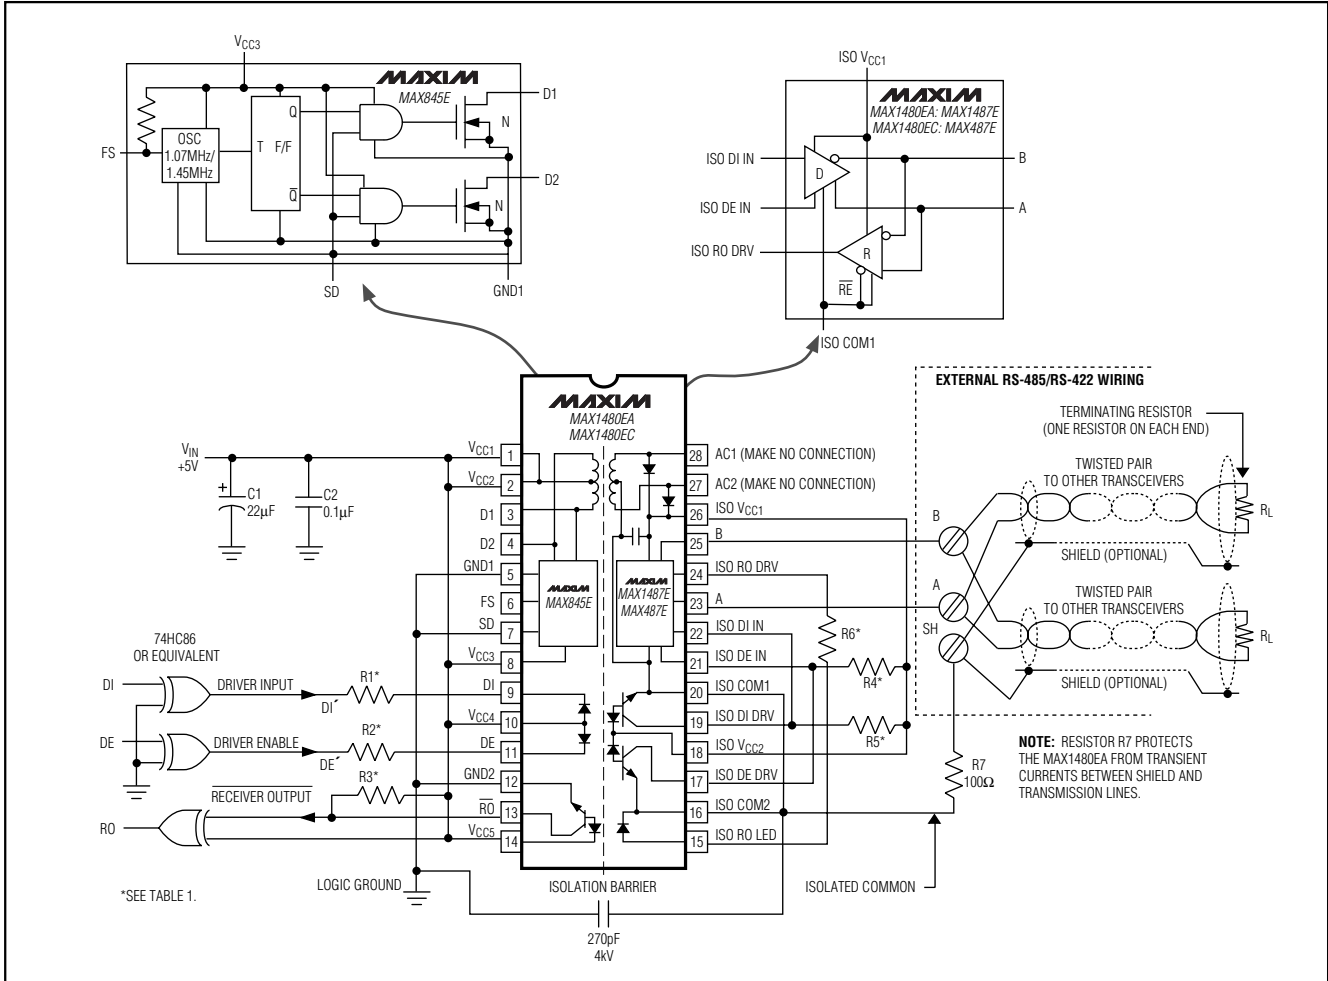
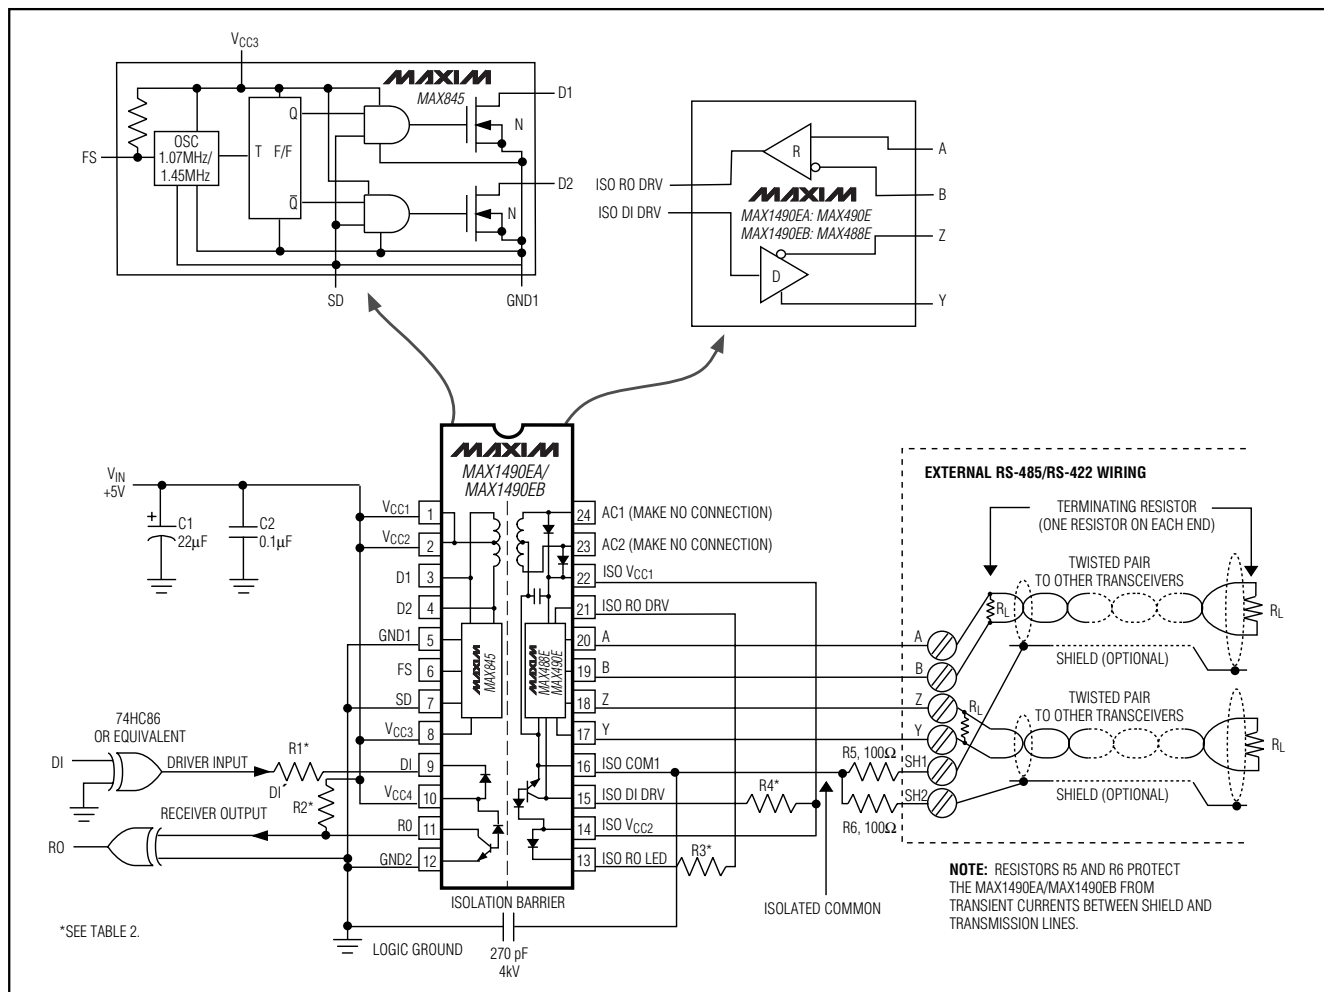

Figure 1. MAX1480EA/MAX1480EC Detailed Block Diagram and Application Circuit
Figure 2. MAX1490EA/MAX1490EB Detailed Block Diagram and Typical Application Circuit
Note 2: For DE⁺ and DI⁺ pin descriptions, see *Detailed Block Diagram and Typical Application Circuit* (Figure 1 for MAX1480EA/MAX1480EC, Figure 2 for MAX1490EA/MAX1490EB).
($V_{CC-} = +5V$, $V_{FS} = V_{CC-}$, Figures 1 and 2, $T_A = +25^\circ C$, unless otherwise noted.)
($V_{CC-} = +5V$, $V_{FS} = V_{CC-}$, $V_{DI} = 0$, DE toggled 0 to 5V at 5kHz, Figures 1 and 2, $T_A = +25^{\circ}C$, unless otherwise noted.)
Note: For DE⁺ and DI⁺ pin descriptions, see Detailed Block Diagram and Typical Application Circuit (Figure 1 for MAX1480EA/MAX1480EC, Figure 2 for MAX1490EA/MAX1490EB).
The MAX1480EA/MAX1480EC/MAX1490EA/MAX1490EB are complete, electrically isolated, RS-485/RS-422 data-communications interface solutions. Transceivers, optocouplers, a power driver, and a transformer in one standard 28-pin DIP package (24-pin package for the MAX1490EA/MAX1490EB) provide a complete interface. Signals and power are internally transported across the isolation barrier (Figures 1, 2). Power is transferred from the logic side (nonisolated side) to the isolated side of the barrier through a center-tapped transformer. Signals cross the barrier through high-speed optocouplers. A single +5V supply on the logic side powers both sides of the interface. The MAX1480EA/MAX1480EC offer half-duplex communications while the MAX1490EA/MAX1490EB feature full-duplex communication. The functional input/output relationships are shown in Tables 3 through 6.
Table 1. Pullup and LED Drive Resistors for Figure 1
Table 2. Pullup and LED Drive Resistors for Figure 2
* For DE' and DI' pin descriptions, see Detailed Block Diagram and Typical Application Circuit (Figure 1 for MAX1480EA/MAX1480EC, Figure 2 for MAX1490EA/MAX1490EB).
The ±15kV ESD test specifications apply only to the A, B, Y, and Z I/O pins. The test surge may be referenced to either the ISO COM or to the nonisolated GND (Figures 1 and 2).